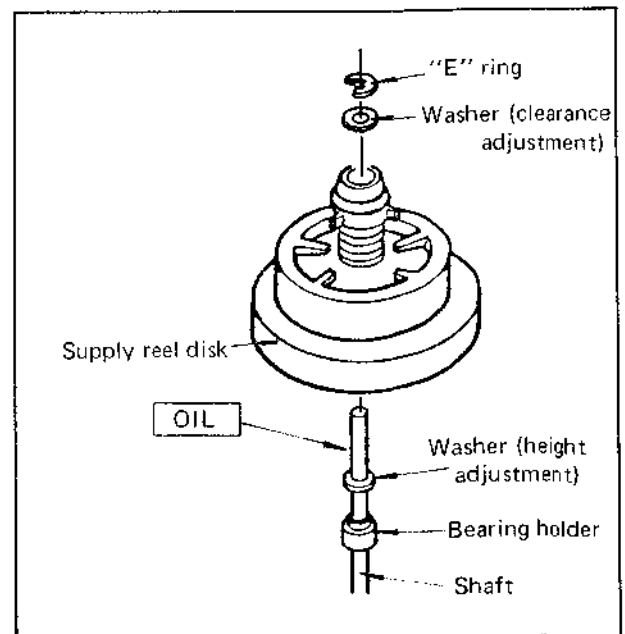

Fig. 4-29
1. Refer to Fig. 4-29. Remove the E-ring, then the upper washer, supply reel disk and lower washer. Use care not to misplace or interchange the washers.